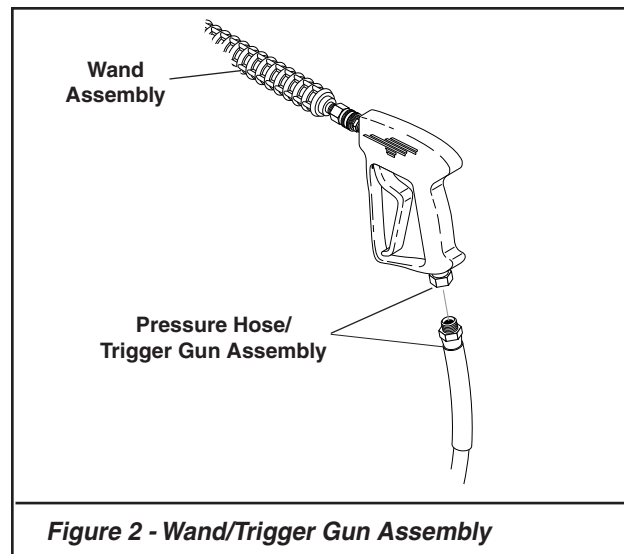

Figure 2 - Wand/Trigger Gun Assembly
3. Attach the wand assembly to the pressure hose/trigger gun assembly as shown in **Figure 2**.